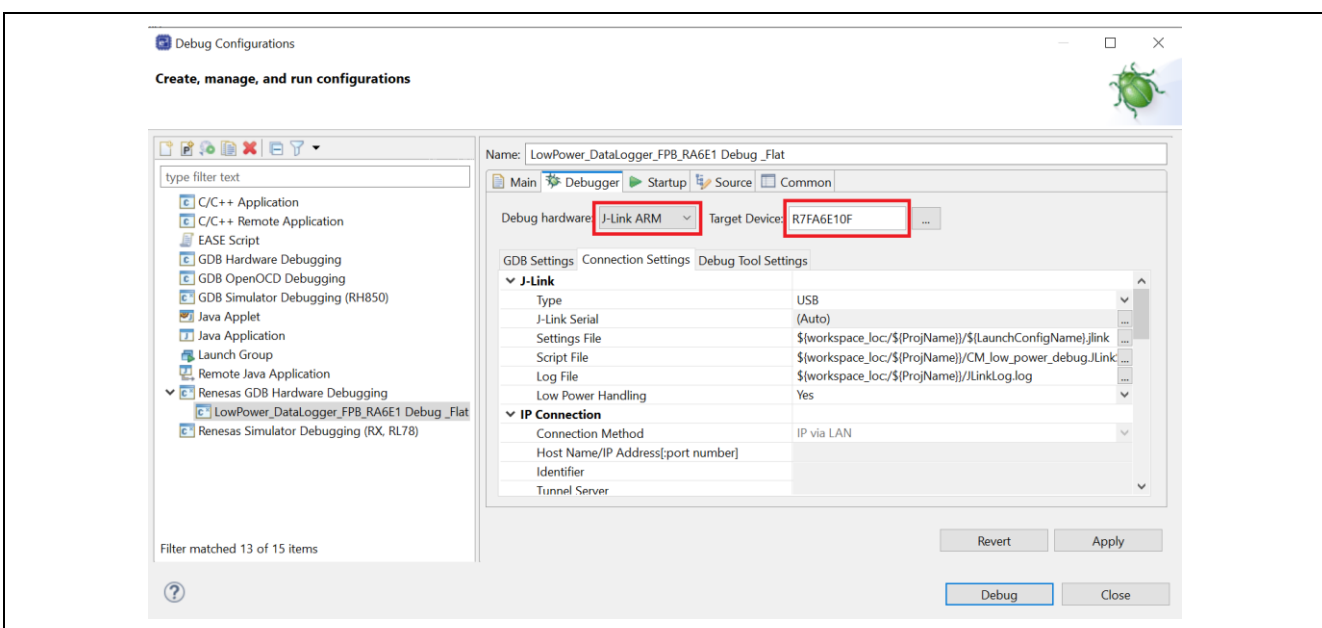

Figure 43. Debug Configuration
3. Change settings as follows and as shown in Figure 43: